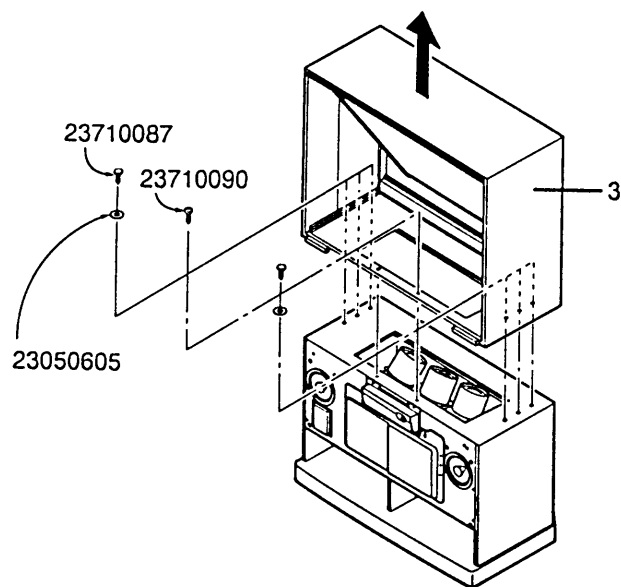

Fig. 11-3
C. Light Box Disassembly (see Figure 11-3)